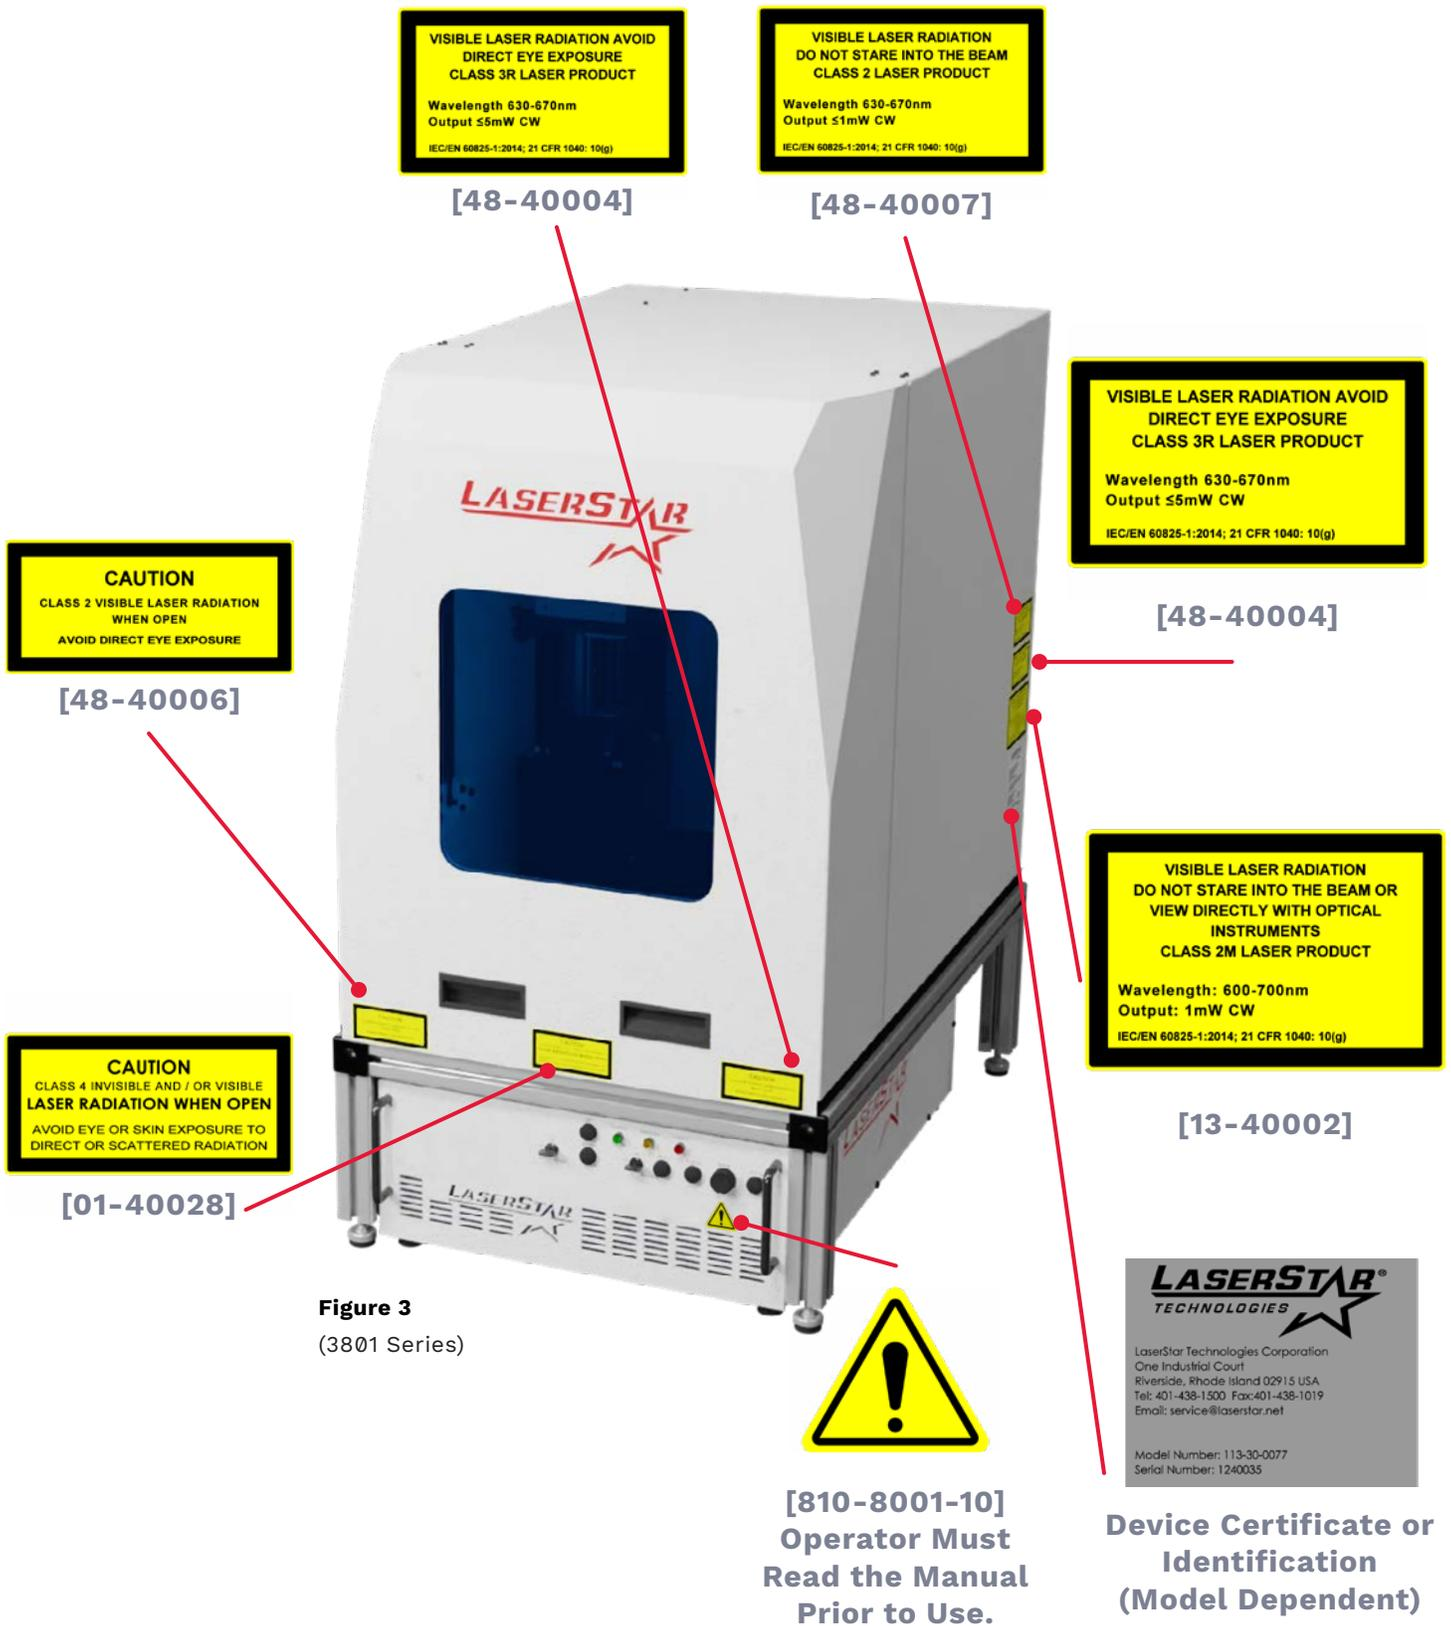

Figure 3
1. Remove the rear panel, which is secured by Phillips #2 M4 screws (see figure 3; page 58). **Attention:** Before removing the panel, it may first be necessary to loosen the cable-retaining nut to allow the cable to slide out, before proceeding